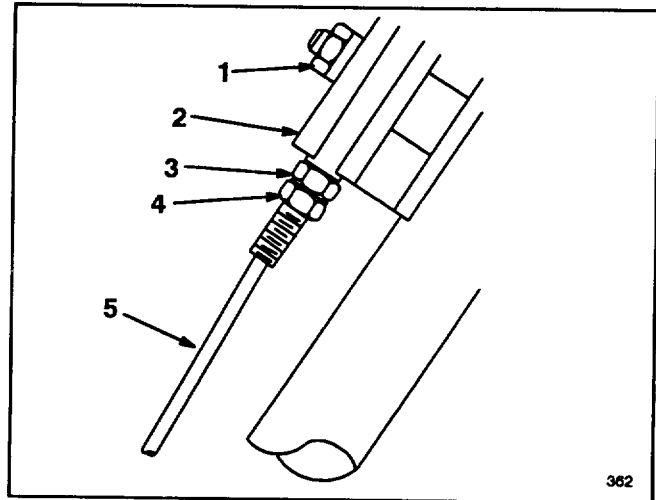

Figure 19
2. Loosen nut on support block (Fig. 19).
3. Loosen bottom jam nut on wheel traction cable (Fig. 19).
8. Top jam nut should be against support block when adjustment is complete (Fig. 19).